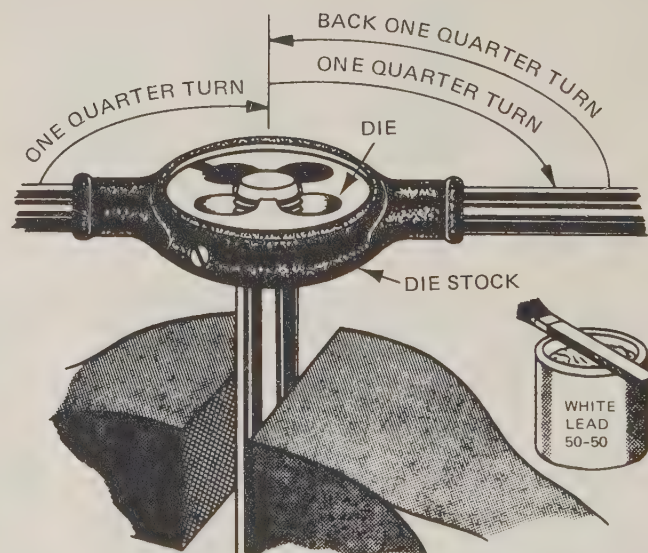

FIG. 6-9 To use a die properly, turn it ahead one-half turn, then back one-quarter turn, while keeping the threads coated with lubricant.
**○6-6 THREAD DIES** A die is run over the outside of a rod to make external, or outside, threads. The die is held in a die stock such as shown in Fig. 6-9.
squarely with the work as shown in Fig. 6-9. To start the thread, hold one handle in each hand, and apply downward pressure, while turning the die stock. When you feel the die starting to cut teeth, turn the die stock forward one-half turn and back one-quarter turn. This breaks off the chips and prevents them from jamming the threads. Add lubricant every couple of turns. When you have cut the length of thread desired, remove the rod. Test the threads with a nut of the correct size. It should go on smoothly and evenly and should not have any play or wobble.